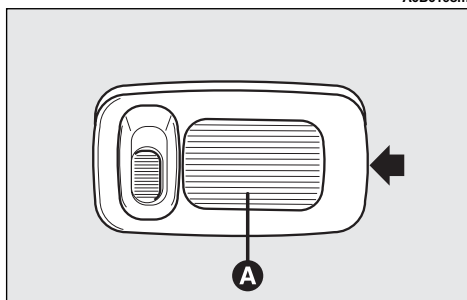

fig. 59
- Remove the roof light (**A-fig. 59**) levering in the point shown by the arrow.